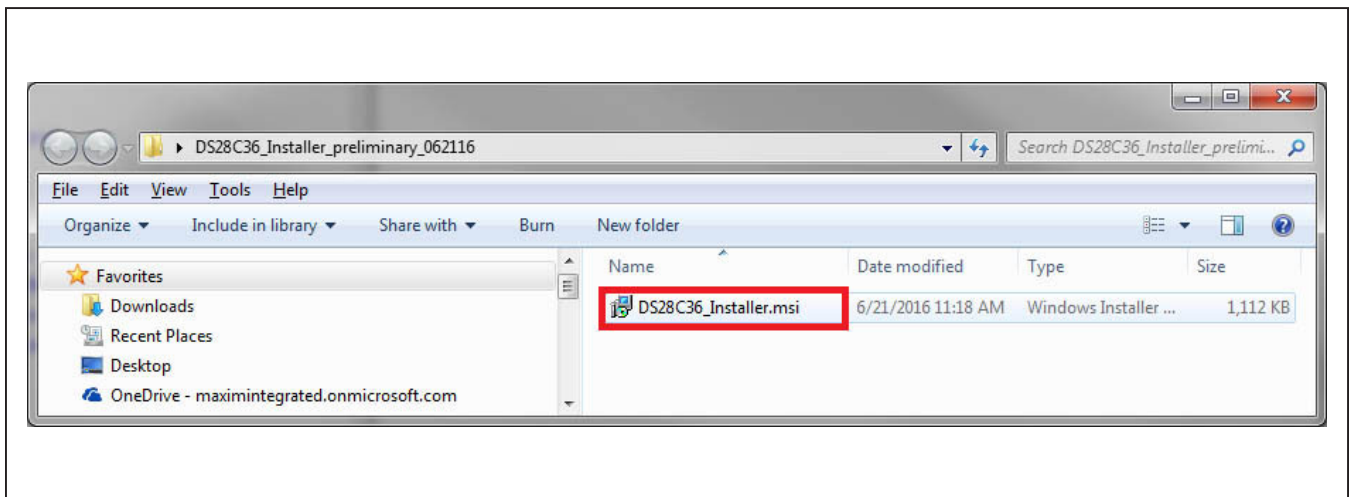

Figure 2. File Viewer
- 2) In a file viewer, double click on **DS28C36_Installer.msi** to begin the installation (Figure 2).